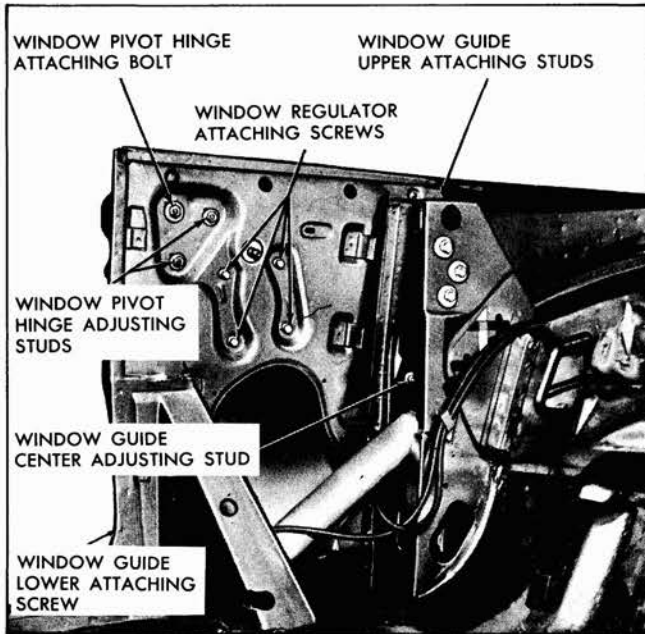

Fig. 14-6 Rear Quarter Hardware "67" Style
2. Remove window pivot bolt (Fig. 14-6).
To adjust the forward travel and up travel of the rear quarter window, loosen the window guide upper attaching stud nuts (Fig. 14-6). Adjust upper stop to desired position and tighten guide attaching screws.
a. "Up or down" or "fore or aft" adjustment: Loosen pivot bolt and both adjusting stud nuts (Fig. 14-6). Position window, as required, and tighten pivot bolt and stud nuts.
b. Top of window "in or out" adjustment: Loosen lower adjusting stud nut and slightly loosen rear stud nut (Fig. 14-6). Adjust lower stud "in or out", as required, then tighten both stud nuts.
c. Rear of window "in or out" adjustment: Loosen pivot hinge rear adjusting stud nut and slightly loosen lower adjusting stud nut (Fig. 14-6). Loosen window guide upper and center attaching screws (Fig. 14-6). Adjust rear adjusting stud "in or out", as required, then tighten both stud nuts. Adjust window guide for proper alignment with window and tighten guide upper and center attaching screws.
3. Remove window regulator attaching screws (Fig. 14-6). Disengage roller on regulator lift arm from window lower sash channel cam and remove regulator through access hole.
2. Remove window guide upper, center, and lower attaching stud nuts and screws (Fig. 14-6). Remove guide through large access hole.